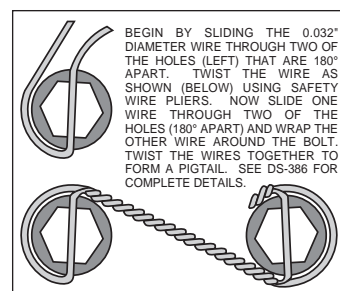

Figure 4. Safety Wire Diagram
- The hat/rotor assembly (6) has been pre-assembled at the factory using red *Loctite*® 271 on the mounting bolts and torqued to specification. For an added measure of security, the bolts may be safety wired using standard 0.032 inch diameter stainless steel safety wire as shown in Figure 4. Please refer to Wilwood's data sheet DS-386 (available at www.wilwood.com/Pdf/DataSheets/ds386.pdf) for complete safety wire installation instructions.